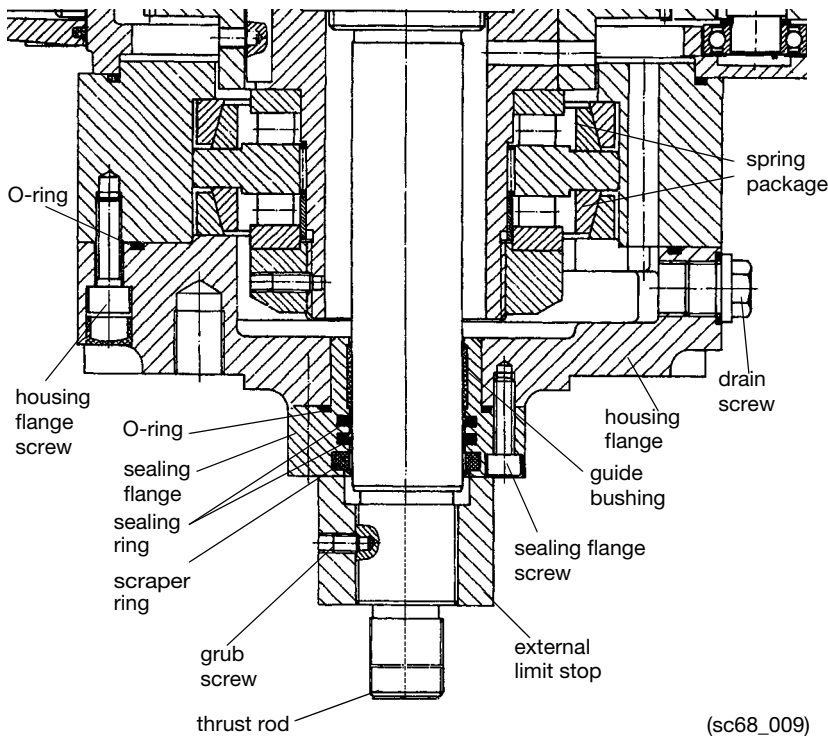

Fig. 7:
- Replace scraper rings, sealing rings and O-rings; see fig. 7 for mounting position.